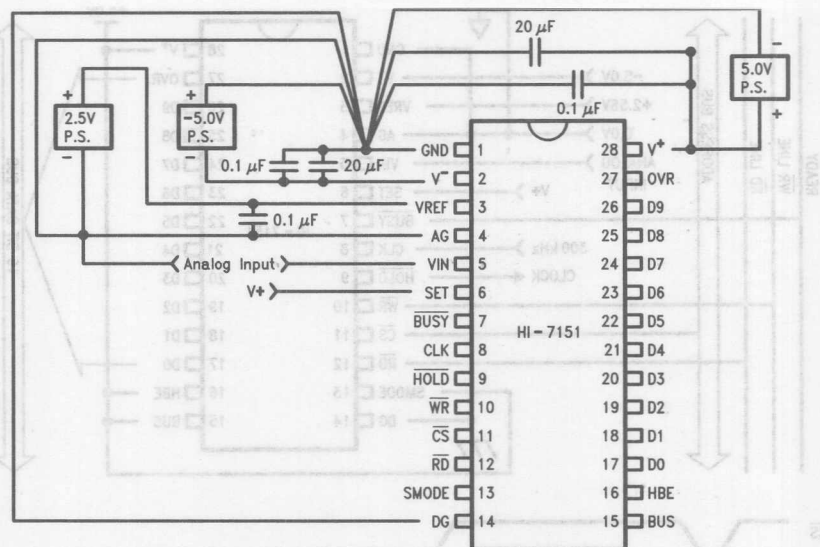

Figure 6: Ground and Power Supply Decoupling
The HI-7151 has three ground pins (AG, DG, GND) for improved system accuracy. Proper grounding and bypassing is illustrated in Figure 6. The AG pin is a ground pin that does not carry any current and is used internally as a reference ground. The reference input and analog input should be referenced to the analog ground (AG) pin. The digital inputs and outputs should be referenced to the digital ground (DG) pin. The GND pin is a return point for the supply current of the comparator array. The comparator array is designed such that this current is approximately constant at all times and does not vary with input voltage. By virtue of the switched capacitor nature of the comparators, it is necessary to hold GND firmly at zero volts at all times. Therefore, the system ground star connection should be located as close to this pin as possible.